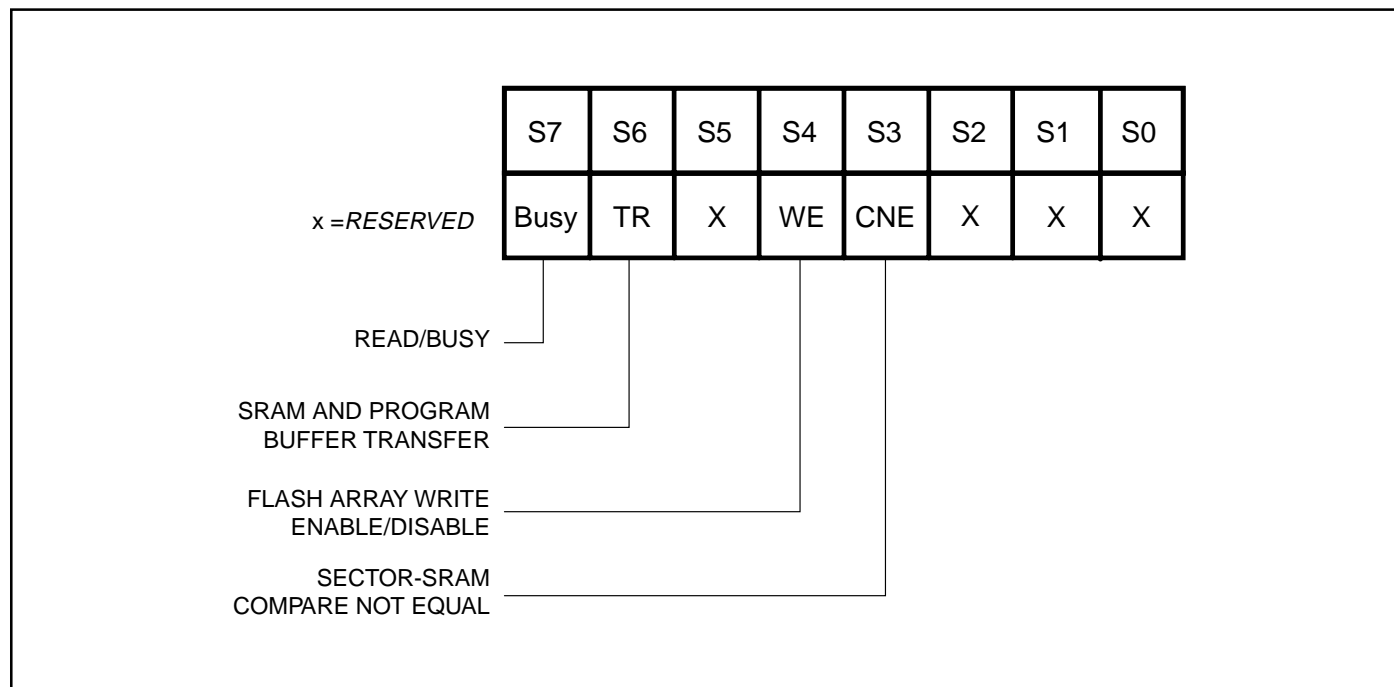

Figure 8. Status Register Bit Locations
The Status Register provides status of the Flash array's Ready/Busy condition (R/ $\overline{\text{B}}$ ), transfers between the SRAM and program buffer (TX), Write-Enable/Disable ( $\overline{\text{WE}}$ ), and Compare Not Equal (CNE). The register can be read using the *Read Status Register* command (Figure 8).